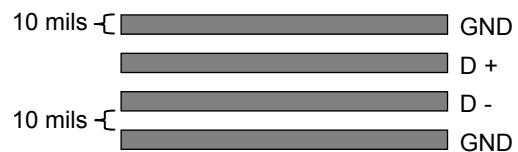

Figure 13 Recommended Remote Diode Circuit Board Interconnect
Any noise, both common-mode and differential, induced in the remote diode interconnect may result in an offset in the temperature reported. Circuit board layout should follow the recommendation of Figure 13. Basically, use 10-mil lines and spaces with grounds on each side of the differential pair. Choose the ground plane closest to the CPU when using the CPU's remote diode.
2. Match the trace routing of the D+ and D- leads and use a 1.0nF filter capacitor close to the aSC7512. Use ground runs along side the pair to minimize differential coupling as in Figure 13.